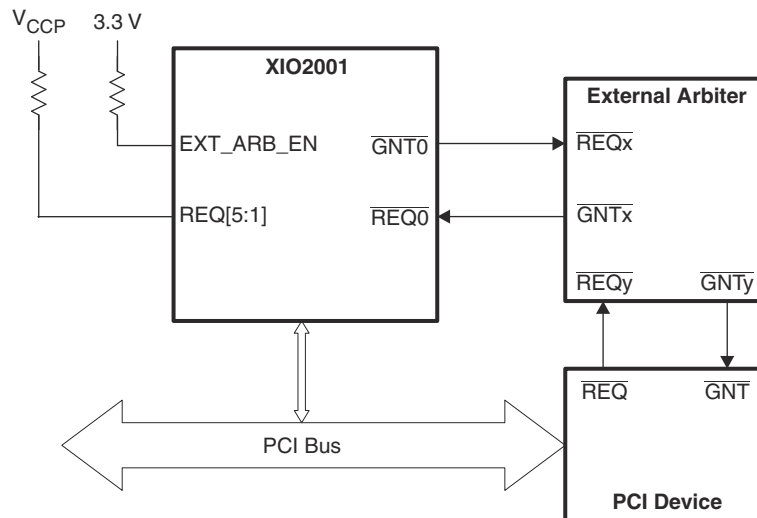

图 9-3. External Arbiter Connections
- The XIO2001 supports an external PCI bus arbiter. When $\overline{\text{PERST}}$ is deasserted, the logic state of the EXT_ARB_EN pin is checked. If an external arbiter is required, EXT_ARB_EN is connected to V_{DD_33} . When connecting the XIO2001 to an external arbiter, the external arbiter's REQ signal is connected to the XIO2001 0 $\overline{\text{GNT}}$ output terminal. Likewise, the $\overline{\text{GNT}}$ signal from the external arbiter is connected to the XIO2001 0 REQ input pin. Unused REQ signals on the XIO2001 should be tied together and connected to V_{CCP} through a pull-up resistor. When in external arbiter mode, all internal XIO2001 port arbitration features are disabled. 图 9-3 illustrates the connectivity of an external arbiter.